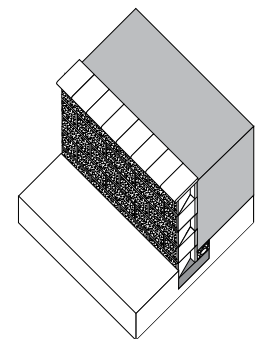

Figure 5
14. Finally, complete your wall with bullnose caps. Glue the caps in place with masonry adhesive to make sure they do not move. (see figure 5)